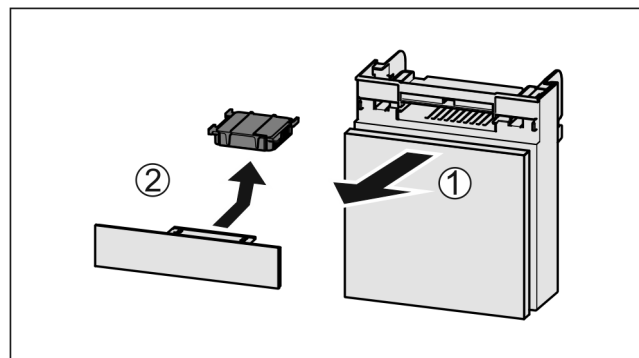

Fig. 40
- ▶ Pull out the compartment Fig. 40 (1).
- ▶ Remove the carbon filter Fig. 40 (2).